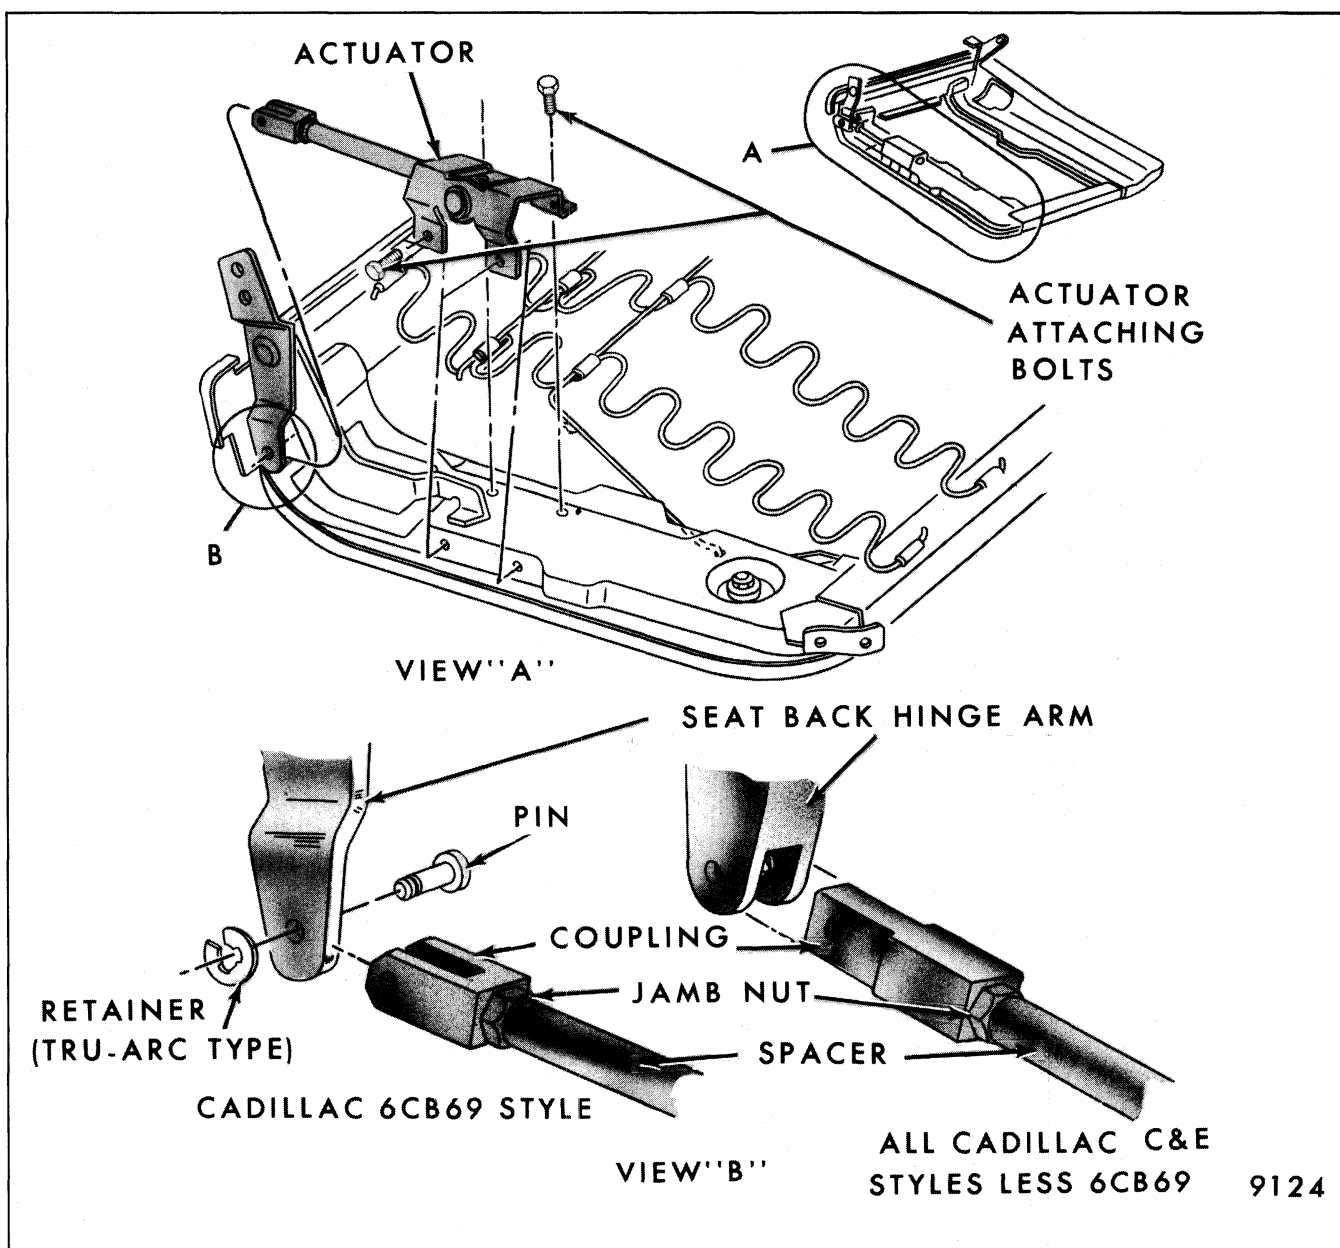

Fig. 9-44-Front Seat Back Power Reclining Actuator
2. Detach outboard side of cushion trim sufficiently to gain access to reclining actuator attaching screws and actuator coupling (see Fig. 9-44).
4. Remove retainer (tru-arc) from actuator pin and remove pin (see Fig. 9-44).